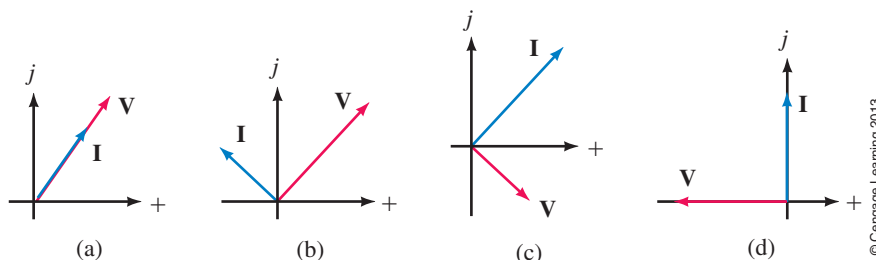

FIGURE 16–37
- For each of the phasor sets of Figure 16–37, identify whether the circuit is resistive, inductive, or capacitive. Justify your answers.
The opposition that a circuit element presents to current in the phasor domain is defined as its **impedance**. The impedance of the element of Figure 16–38, for example, is the ratio of its voltage phasor to its current phasor. Impedance is denoted by the boldface, uppercase letter **Z**. Thus,